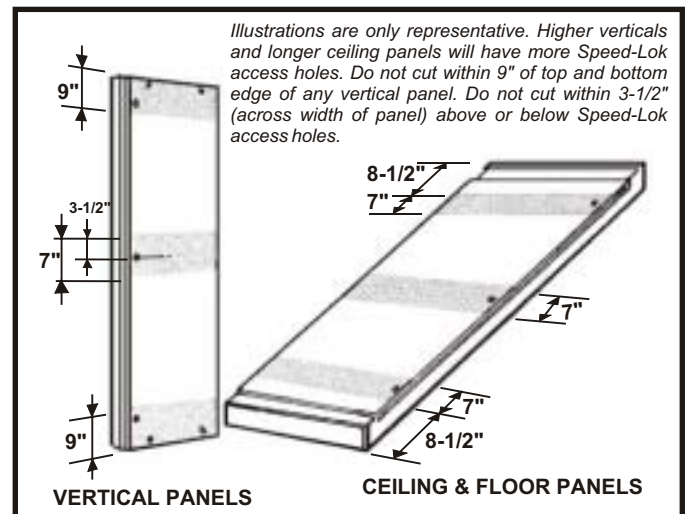

Fig. 32
- A. When a remote refrigeration system is used, it will be necessary at the job site to make holes for refrigeration and electrical lines. There are several areas on the walk-in panels where holes should not be cut. See Fig. 32.